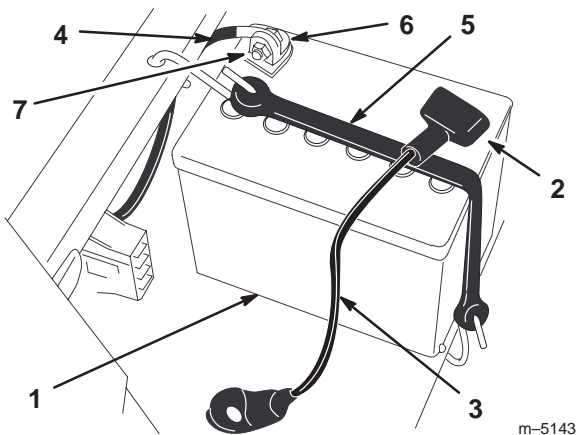

Figure 25
4. Disconnect the negative (black) ground cable from the battery post (Fig. 25).
5. Slide the rubber cover up the positive (red) cable. Disconnect the positive (red) cable from the battery post (Fig. 25).
6. Remove the battery hold-down (Fig. 25) and lift the battery from the battery tray.
1. Position the battery in the tray with the terminal posts away from the control panel (Fig. 25).
4. Secure the cables with 2 bolts (1/4 x 3/4 inch), washers (1/4 inch), and nuts (1/4 inch) (Fig. 25).
6. Secure the battery with the hold-down (Fig. 25).